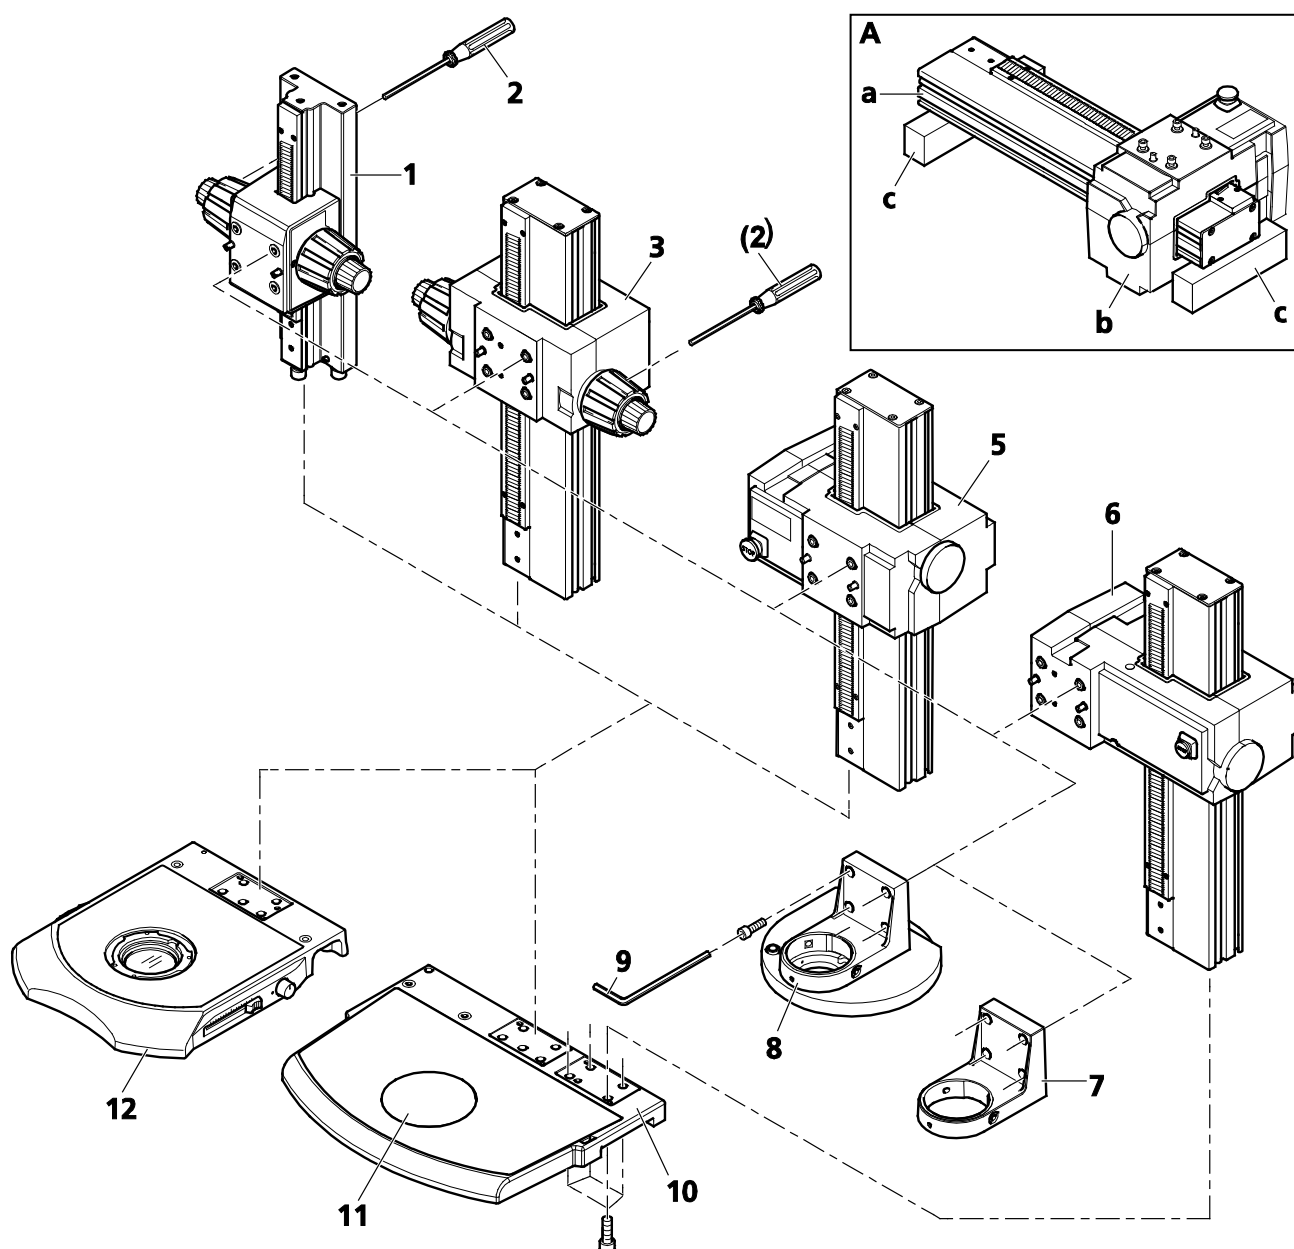

Fig. 5 Setting up the stand
To avoid damage to the motorized focusing drive (e.g. focus motor with profile column 490 mm Fig. 5A), it should only be set down on the **back** of the column (Fig. 5/a) using sufficiently high supporting blocks (Fig. 5/c) (do **not** put it onto the rack side). The focusing unit (Fig. 5/b) of the focusing drive may not be used as a support.
The stand base 450 (Fig. 5/10) has two mounting faces for the focusing drive. The mounting face on the right-hand side is only used for the motor focus with profile column 490 mm (Fig. 5/4). The stand base 300 (Fig. 5/12) has on the central mounting face.
- Push the carrier (Fig. 5/7) or nosepiece Z 2x cod. (Fig. 5/8) onto the focusing drive until the orientation screws engage; hold it steady until the first screw has been tightened.
- Tighten all four hexagon socket screws (SW 5) with the Allen key (Fig. 5/9).
Install the carrier (Fig. 5/5) rotated by 180° to enable observation of taller samples.
- Insert plate (Fig. 5/11).
With a coarse/fine drive with column 490 (Fig. 5/3) the torque-adjusting ring is on the right-hand focusing knob, with a coarse/fine drive with column 350 (Fig. 5/1) it is on the left focusing knob.
- Insert the supplied ball-head screwdriver with SW 3 mm (Fig. 5/2) into one of the radially arranged bores on the torque-adjusting ring.